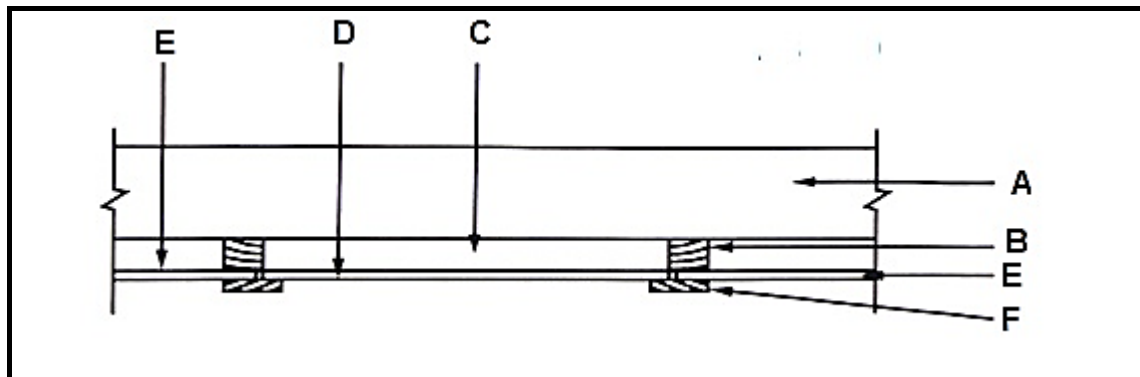

FIGURE 4.8
- 4.8 FIGURE 4.8 below shows a sectional view through the construction of a trap door.